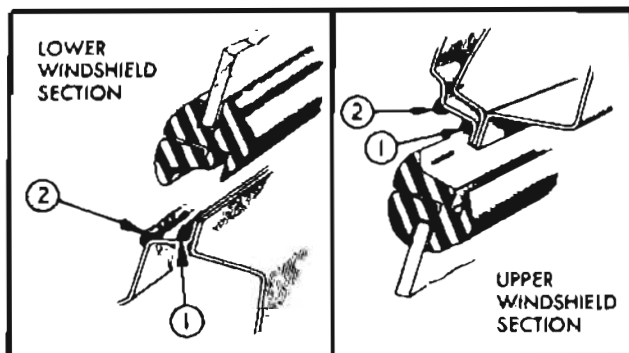

Figure 13-28—Location of Windshield Sealing Compounds
5. Apply continuous bead of 3-M Autobody Sealer completely around the windshield opening at (1) outer corner of pinchweld flange and (2) outer corner of windshield opening rabbet as indicated in figure 13-28. On *two-piece* windshield also apply a bead of sealer across the top and bottom of windshield center division bar.